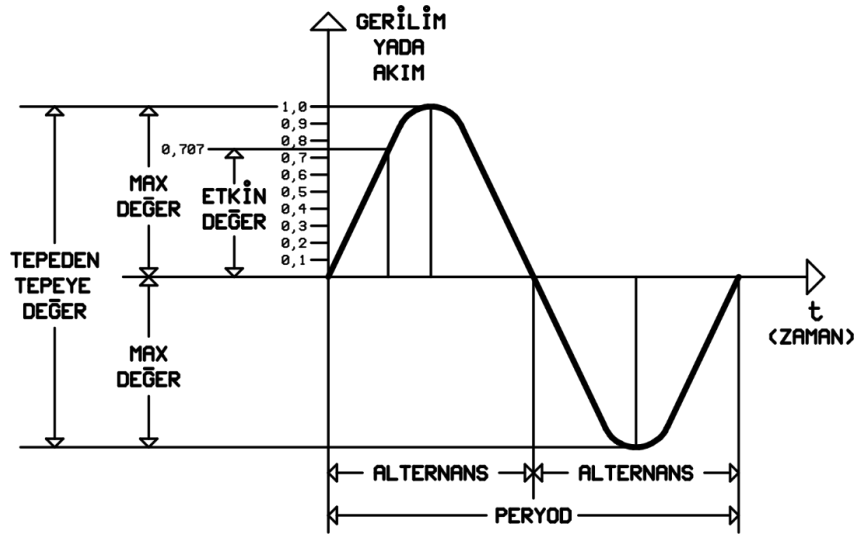

Figure 5
Alternating Current (AC): Electrical current which periodically reverses direction and magnitude. It is symbolized by “AC” (Alternating Current). Pendulum swing is an example of periodical move. Pendulum swing is from the midpoint and at equal distance to both sides. Half of the pendulum move is called “Alternation”. A complete move of the pendulum consisting of two alternations is called a “period.” A period is shown in figure 5.
City network, generators are the sources of alternating current. Magnitude of the alternating current also varies during the work time. The magnitude of AC at any moment is called “instantaneous value.” Instantaneous value is shown by “e” for voltage and by “i” for current. Measurement devices measure the effective value of the AC. Effective value is also called RMS (Root-Mean-Square). Effective value is the one we use in daily life. Effective value is shown by “E” for voltage and by “I” for current. The maximum value of an alternation is called “maximum value.” Maximum value appears twice in a period: one in negative alternation and one in positive alternation. Maximum value is shown by “E_{max}” for voltage and by “I_{max}” for current. In the experiments of this book, mostly, the oscilloscope will be used. Oscilloscopes are the devices by which we can see and measure the electrical wave forms. “Peak to peak value” is the AC value which is the easiest one to measure by oscilloscope. Peak to peak value is the sum of two maximum values in a period. It is shown by “E_{pp}” for voltage and by “I_{pp}” for current. “pp” means peak to peak. Commonly used values for AC is shown in figure 5.